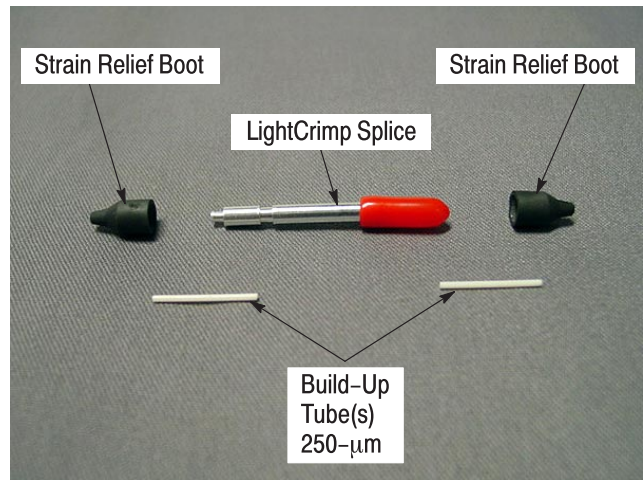

Figure 31
3. Identify the components. See Figure 31.